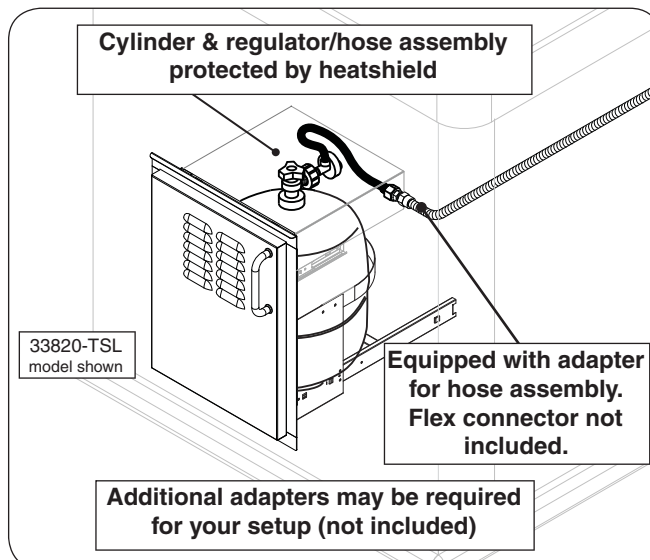

Fig. 13-3 Optional RHP door w/ tank tray
- **RHP offers propane tank door with tank tray models and a propane tank heatshield that rests directly on the tank to meet the cylinder install requirements. Propane tank door with tank tray shown in Fig. 13-3. Contact your dealer for ordering information.**